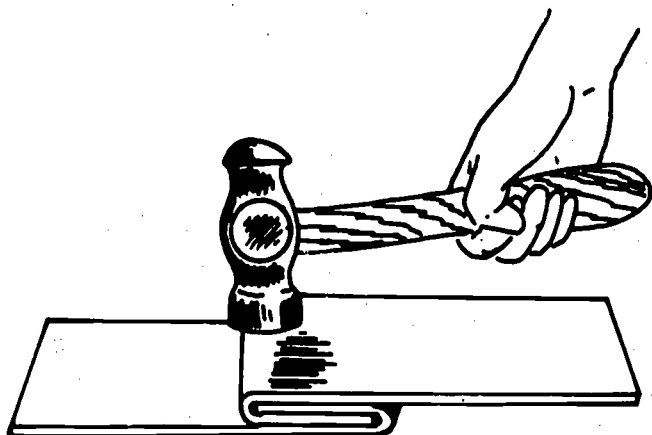

Fig. 124-1. Fastening Sheet Metal
8. Many nonthreaded fasteners are fabricated as part of a component. Demonstrate bending and fastening two pieces of sheet metal with a lapped seam, using a hand seamer. See Fig. 124-1. If the assembly is to be permanent, it can be crimped together; demonstrate hammering seam together with a mallet.